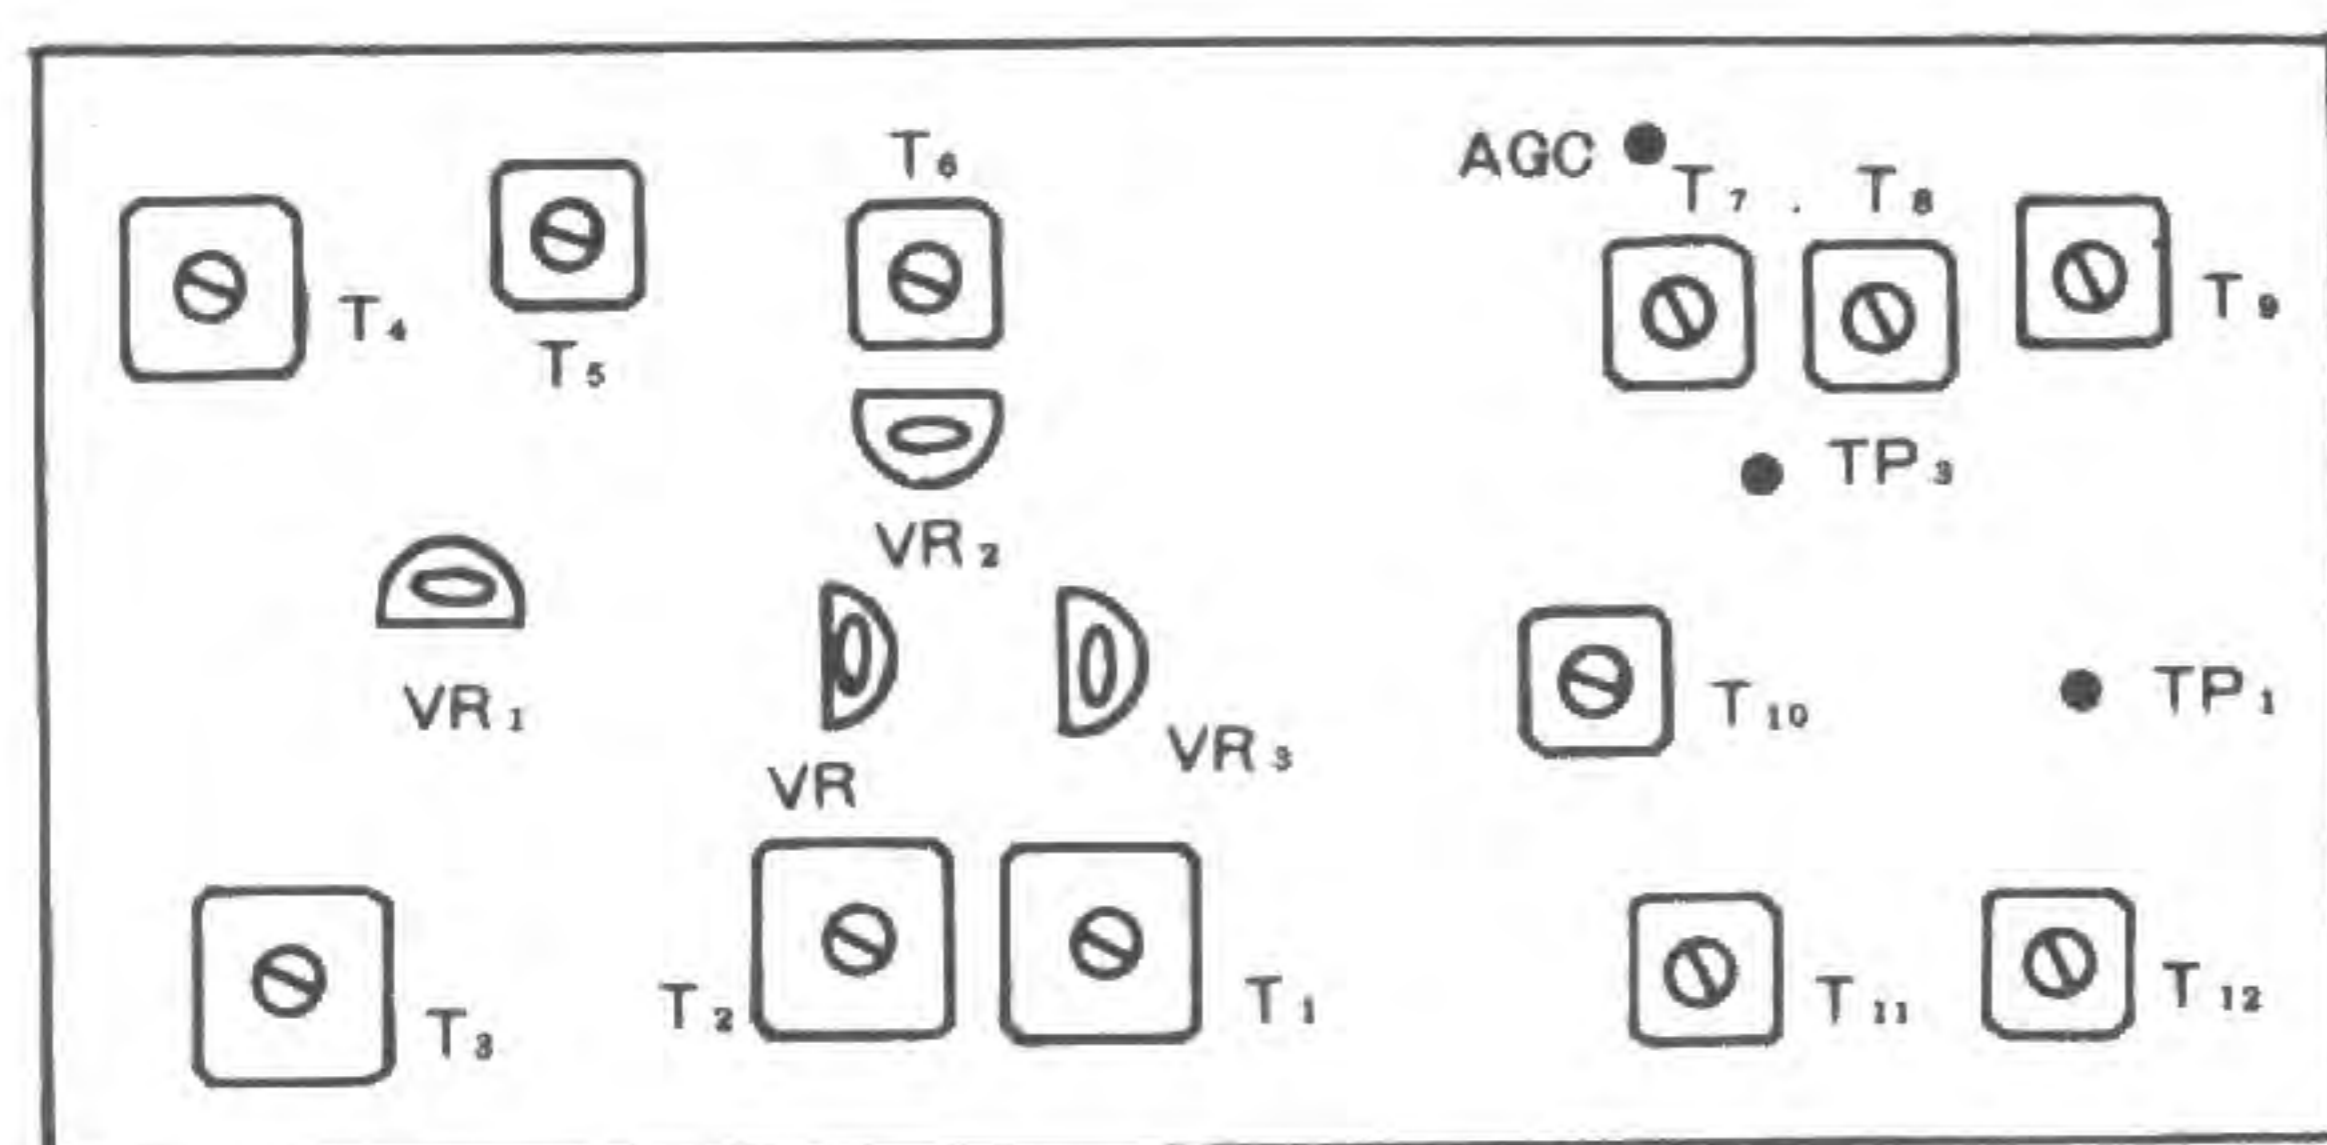
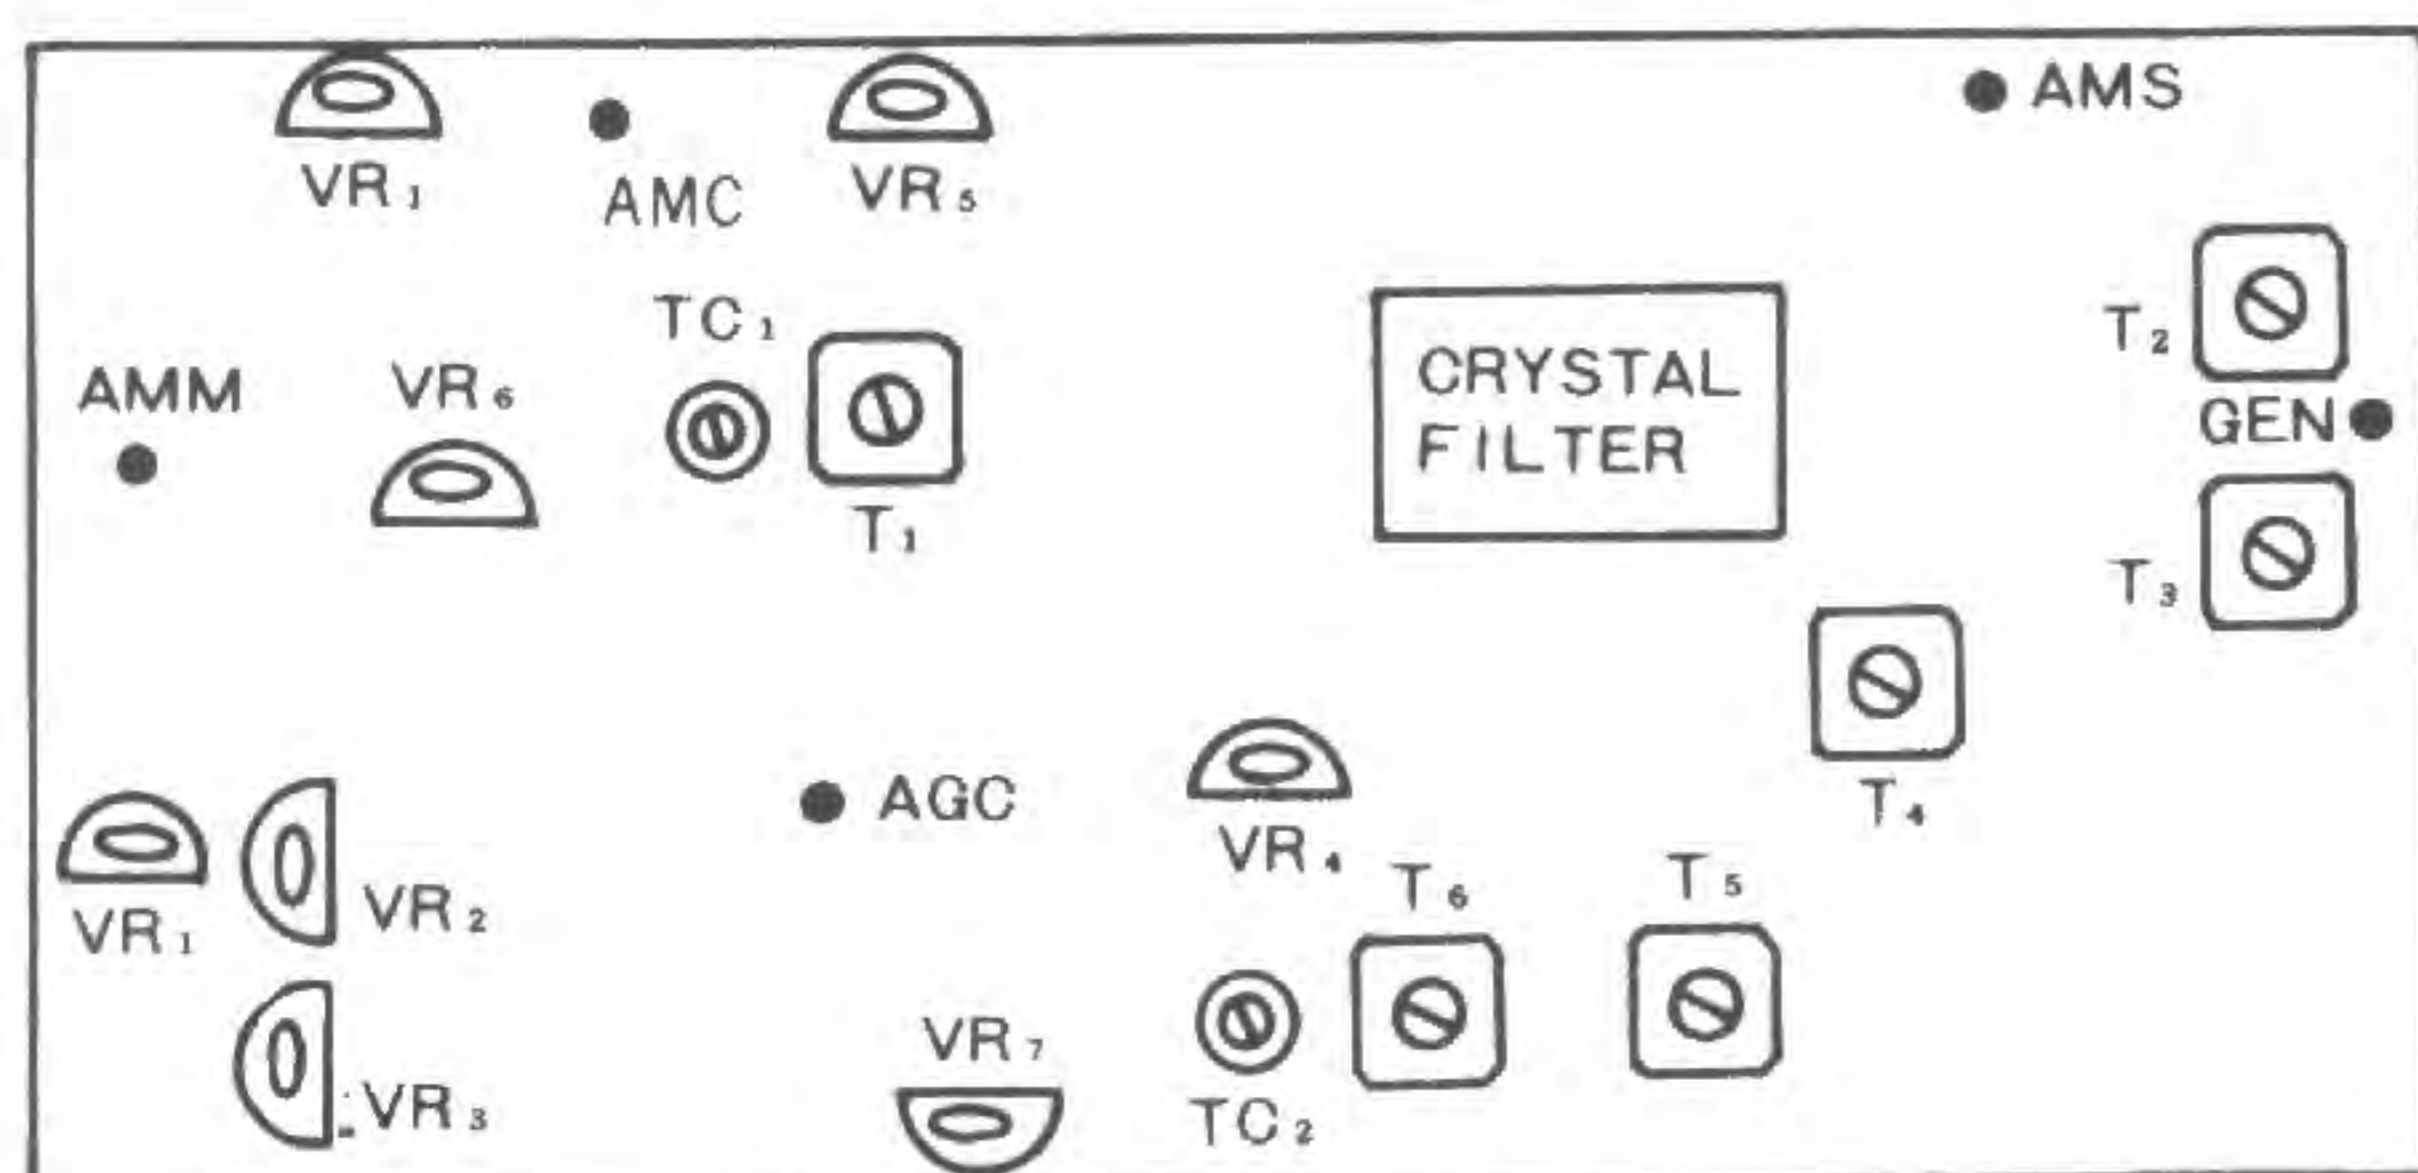

Fig. 18 RX·NB unit
Fig. 19 GEN unit
Adjust the SS generator to produce a 146.0 MHz (700A), 145.0 MHz (700G) signal at a level anywhere between 10 and 20 dB and feed this signal into the transceiver through its antenna terminal, as shown. Decrease the SSG output gradually until AGC disappears. Adjust T4, T5 and T6 (of the GEN unit, Fig. 19), T1, T2, T3, T4, T5, T7, T11 and T12 (of the RX NB unit, Fig. 18) in such a way that the pointer of the AF vacuum-tube voltmeter will deflect to the farthest possible position on the scale. Hold the SSG output always at such a level as will not cause the "S" meter pointer to deflect.
- 1) Connect the vacuum-tube voltmeter to TP3 (Fig. 18).
- 3) Minimize the DC voltage at TP2 by adjusting T8 ~ 10 (Fig. 18).
- 1) Adjust VR4 (Fig. 18) to make the pointer of this meter stay at "0" on the scale in the condition of non-reception of the signal.
- 3) Adjust VR2 (Fig. 18) to deflect the meter pointer to "9". Repeat the process, step 1) to 3), two or three times.
- 2) Adjust VR7 and TC3 (Fig. 19) to minimize and equalize the "S" meter deflection for the two side-band signals, USB and LSB.
- 2) Adjust VR3 (Fig. 18) in such a way that the RF meter pointer will deflect to "8" (S9 position).
- 1) Referring to Fig. 19, connect the frequency counter and RF vacuum-tube voltmeter to the GEN terminal.